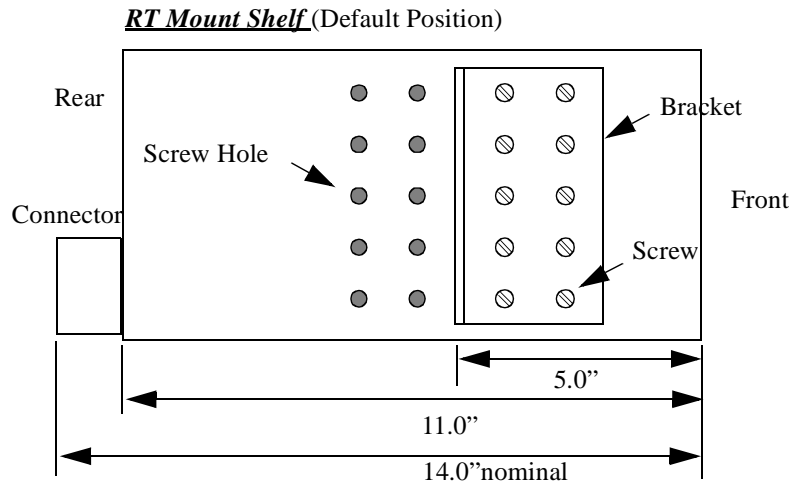

Figure 4. *FAST Shelf Left Side Mounting Bracket*
- C I  Step 2: Verify that the adjustable mounting brackets on the FAST shelf are arranged for front mounting (default position). See Figure 4.